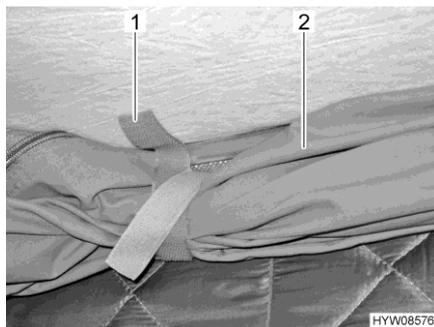

Fig. 80 Retaining clips
- Undo the retaining clips (Fig. 80,1) on the rolled-up canvas (Fig. 80,2).
- Roll up the canvas (Fig. 80,2) and secure with the retaining clips (Fig. 80,1).